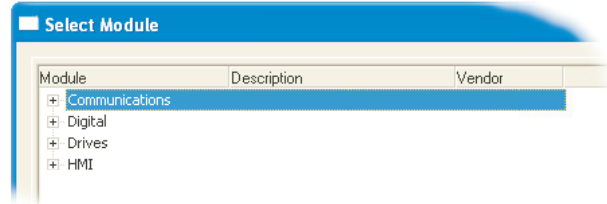

Figure 4.3.21m The communications list (unexpanded)
2. Expand the communications list (click on the + symbol) (figure 4.3.21m)